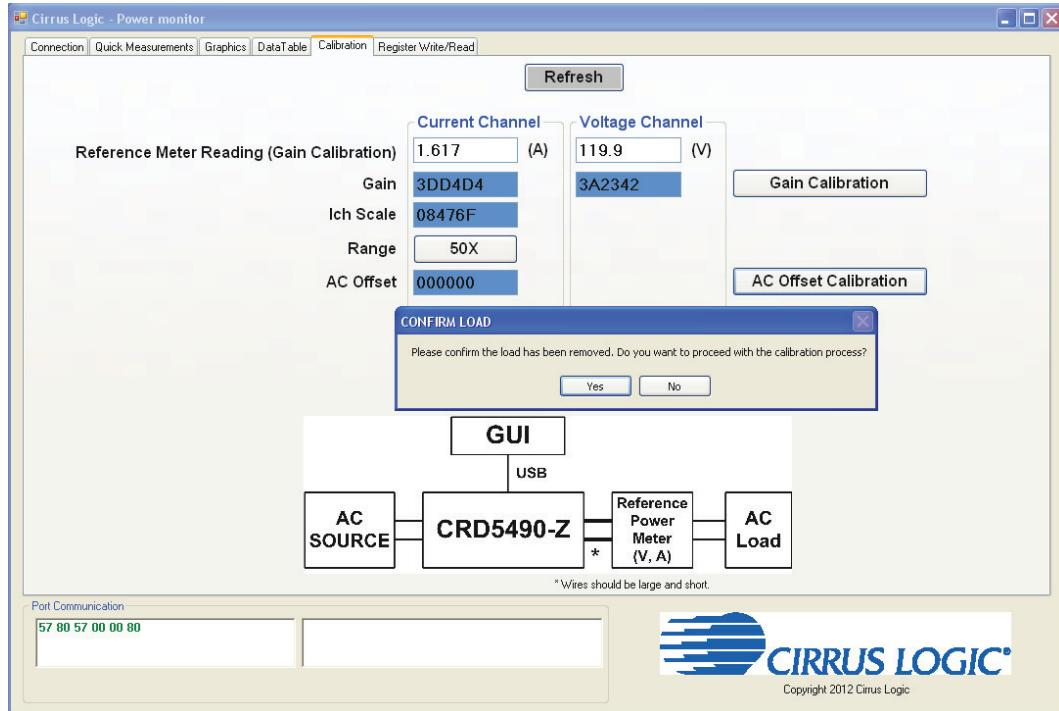

Figure 23. Calibration Tab with CONFIRM LOAD Window
8. Confirm the load has been removed or turned off, and then click **Yes** from the CONFIRM LOAD window shown in Figure 23.